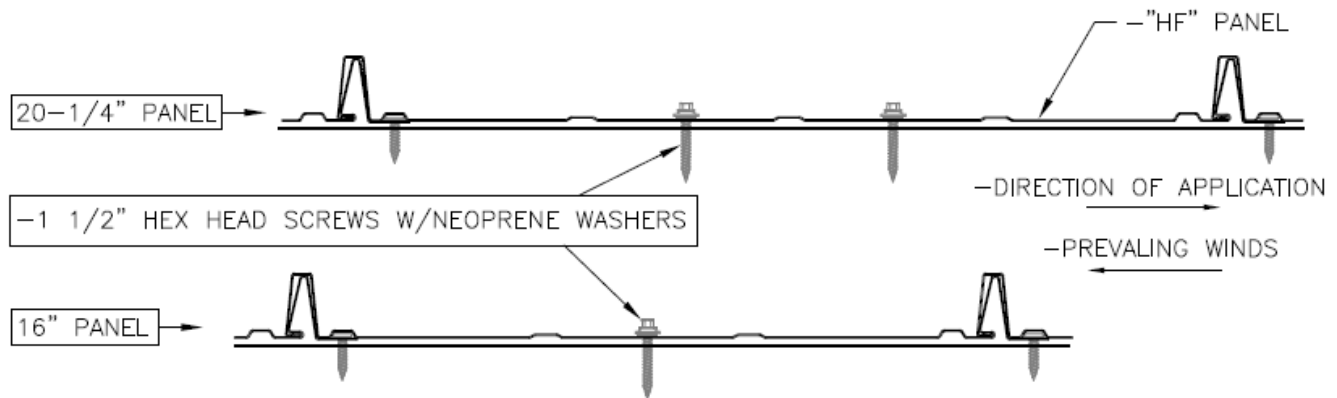

FIGURE 2—HF PANEL
The HF-16 and HF-20.25 roof panels are attached to sheathing or framing with the fasteners specified in Section 3.3. At the eave, fasteners are positioned as shown in Figure 2, with one fastener for the HF-16 Panel and two fasteners for the HF-20.25 panel. Fasteners along the length of the panel are spaced at 16 inches (406 mm) on center.
3.1.2 A34 and A35 Framing Angles: The A34 and A35 framing angles are formed from No. 18 gage galvanized steel. The A35 angle has slots and bend lines to permit field adjustments of the legs for two- and three-way tied connections. The A34 is an equal leg angle without slots or bend lines. See Table 2 for angle dimensions, fastener schedules, and allowable loads. See Figure 2 for illustrations of framing configurations with the A34 and A35 angles.